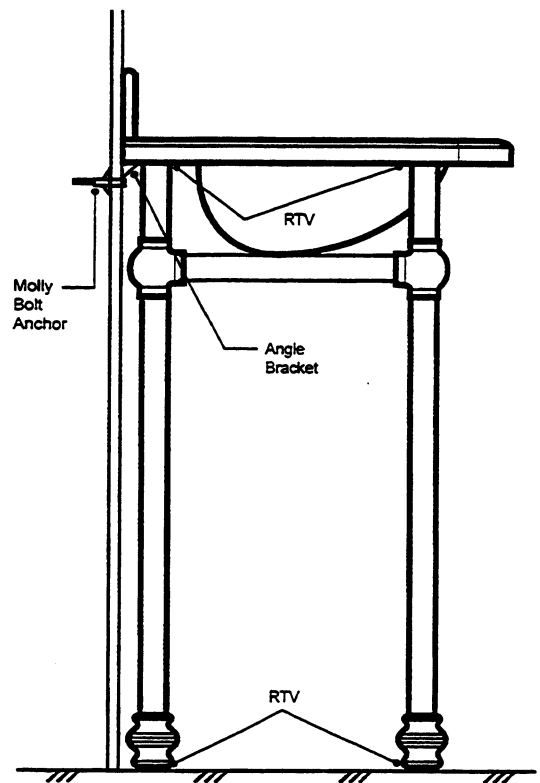

Fig. 3
- Step 10. Apply silicone RTV to the top of each leg cap and to the area where the feet will rest. (See Fig. 3).